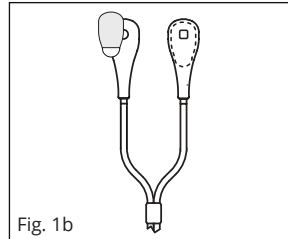

Fig. 1b
2. Attach one square to each window of the sensor pads (emitter and detector). Avoid touching the sticky side prior to applying to the sensor pads. (see **Fig. 1b**)